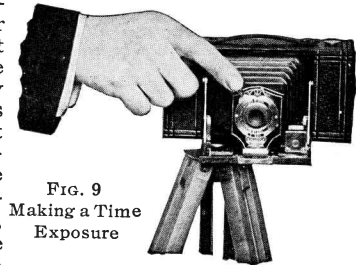

FIG. 9
1. Place the camera in position on a tripod or some other firm support. Fig. 9.